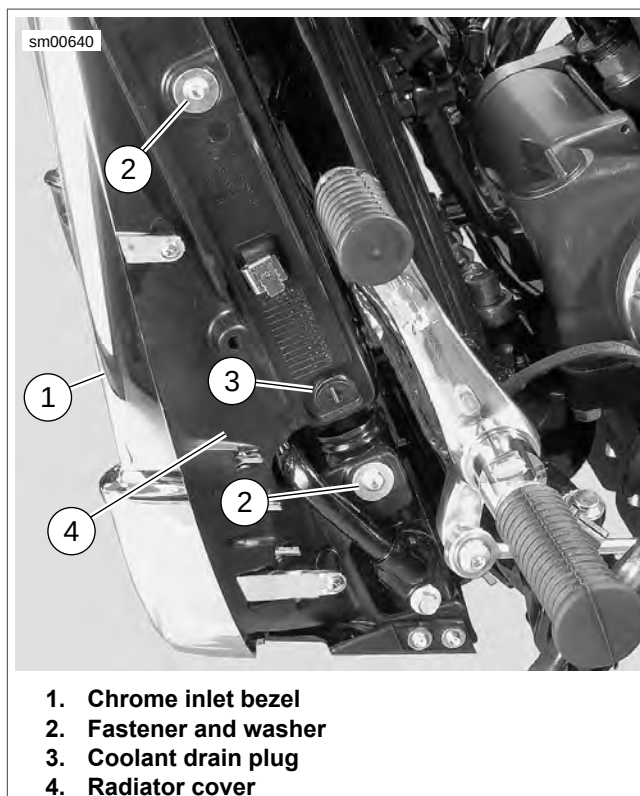

Figure 5-22. Left Side Radiator (typical) (forward controls model shown)
4. See Figure 5-22. Remove fastener and right radiator trim cover.
6. See Figure 5-22. Remove fastener and left radiator trim cover.
12. See Figure 5-22. Loosen but do not remove coolant drain plug (3). Turn drain plug until slot in threads drains into container.